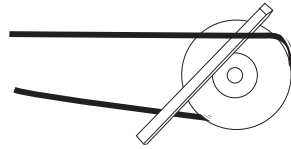

Figure 15
4. Always loosen tension enough to install belts without stretching. Do not force the belt(s) see *Figure 15*. Forcing belts will break the cords and cause belt failure.